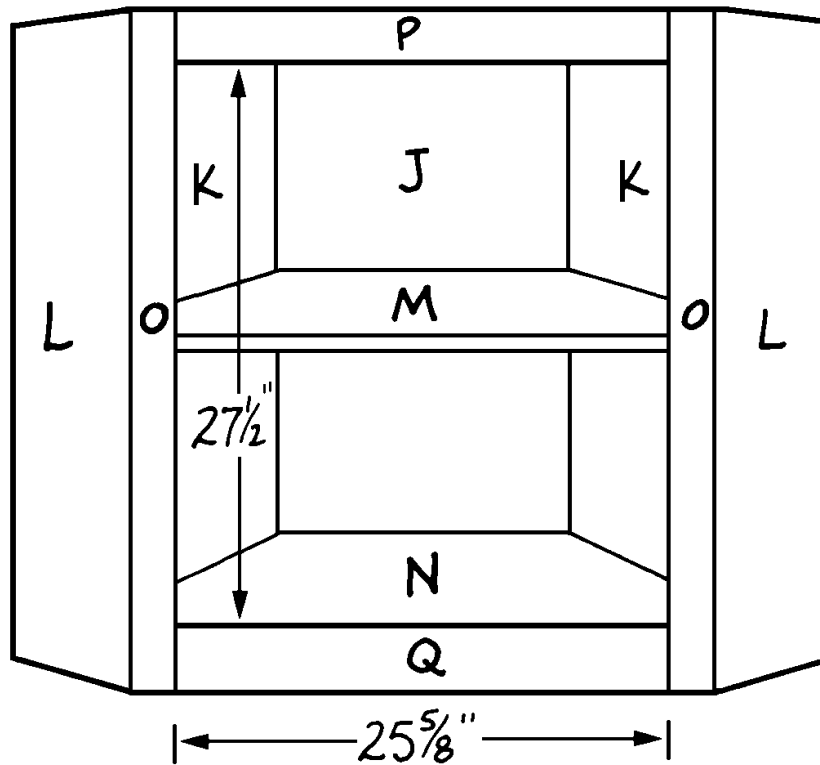

Figure 6
1. Turn the lower cabinet assembly right side up. Cut two lower vertical facers (O) from 1 x 4 pine, each 34-1/2" long.
2. Rip each of the lower vertical facers (O) to 2-1/4" in width.
3. Bevel one 34-1/2"-long edge of each lower vertical facer (O) at 22-1/2 degrees.
4. Note in *Figure 5* that the beveled edge of the lower vertical facer matches the beveled edge of the lower front (L). Attach one lower vertical facer (O) to the left lower front (L), the lower shelf (M), and the lower top (I), as shown in *Figure 6*, using two 3d finishing nails driven in just far enough to hold the pieces in place.
5. Repeat Step 4 to attach the remaining lower vertical facers (O) to the other side of the cabinet assembly.
6. Check the width of the opening between the two lower vertical facers (O) along the exposed edge of the lower floor (N), across the center of the opening, and across the top. The opening should measure exactly 25-5/8". If necessary, remove the two lower vertical facers (O) and alter them to make the opening conform to this measurement. Then glue the two lower vertical facers (O) in place and drive 3d finishing nails, spaced about 4" apart, through the beveled edges of the lower fronts (L) into the edges of the lower vertical facers (O). Also insert 1-1/4" screws through the facers (O). Also insert 1-1/4" screws through the facers (O) into the edges of the lower floor (N) and lower shelf (M).
7. From 1 x 4 pine, cut one 25-5/8" long lower top horizontal facer (P) and one 25-5/8"-long lower bottom horizontal facer (Q).
8. Fit the lower bottom horizontal facer (Q) between the two lower vertical facers (O), positioning it so that its top edge is flush with the upper surface of the lower floor (N). Glue the facer (Q) in place and secure it with 3d finishing nails driven through the facer (Q) and into the edge of the floor (N). Also toenail the ends of the facer (Q) to the edges of the lower vertical facers (O).
- Fit the lower top horizontal facer (P) between the two lower vertical facers (O), so that it is flush at the top. Secure it temporarily by driving two 3d finishing nails through the facer (P) and into the edge of the lower top (I). Hammer the nails in only far enough to hold the piece in place.